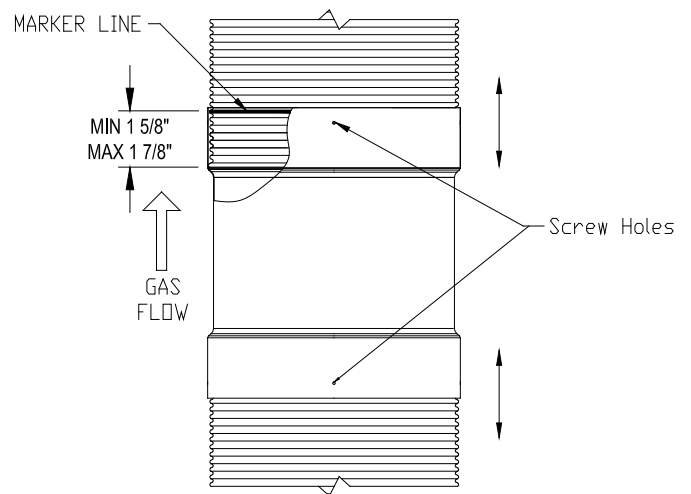

Figure 17 - DuraSeal Flex dry fit test
1.2. To make sure that everything is airtight before putting the sealant between both tubes, do a dry fit test by pushing the liner into the adapter until it reaches the bottom of the flare between the inner wall and the outer wall, then remove it (Figure 17).